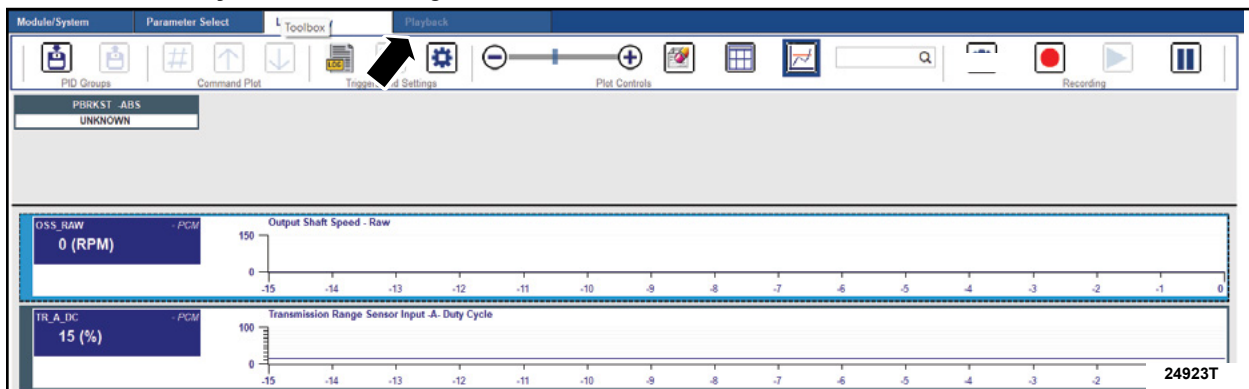

FIGURE 7
19. Select the **Playback** tab. See Figure 7.